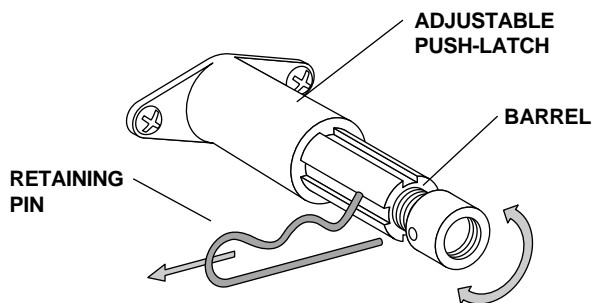

FIGURE 44
1. Remove the drawer, then remove the retaining pin from the barrel of the push-latch (see Figure 44).